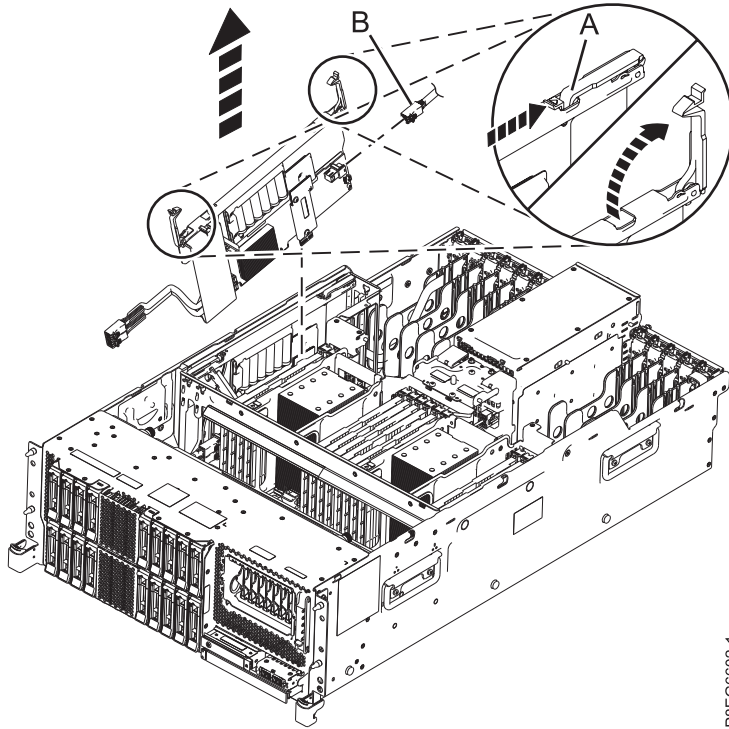

Figure 4. Removing the PCIe3 x8 cache SAS RAID internal adapter 6 Gb
5. Lift the blue handles (**A**) of the SAS RAID internal adapter in the direction shown. See Figure 4 on page 7.
6. Using the blue handles on the SAS RAID internal adapter, lift the adapter up far enough to disconnect the rear SAS cable (**B**) from the SAS RAID internal adapter, as shown in Figure 4 on page 7.